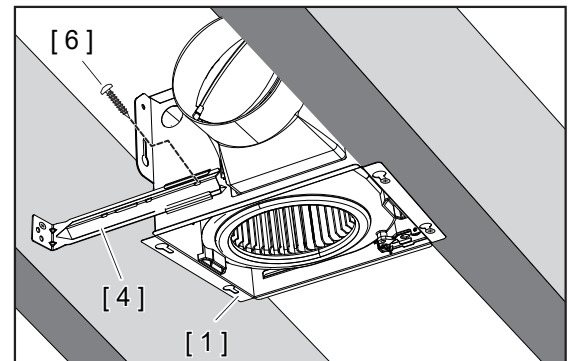

Fig 12
5. Install one Short Screw [6] to the hole of the Short Bracket [4] and secure. The hole should be close to the center of the slot. (Fig 12)